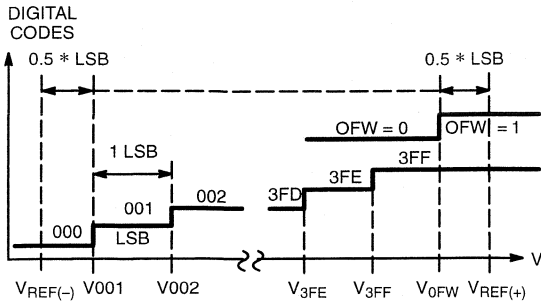
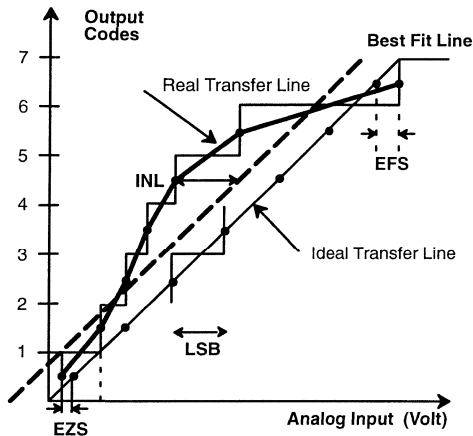

Figure 4. Ideal A/D Transfer Function
Figure 7. INL Error Calculation
- Tester measures code transition voltages by dithering the voltage of the analog input (V_{IN}). The difference between the measured code width and the ideal value ($V_{REF}/1024$) is the DNL error (see Figure 4.). The INL error is the maximum distance (in LSBs) from the best fit line to any transition voltage (See Figure 7.).
The transfer function for an ideal A/D converter is shown in Figure 4.
Figure 7. gives a visual definition of the INL error. The chart shows a 3-bit converter transfer curve with greatly exaggerated DNL errors to show the deviation of the real transfer curve from the ideal one.